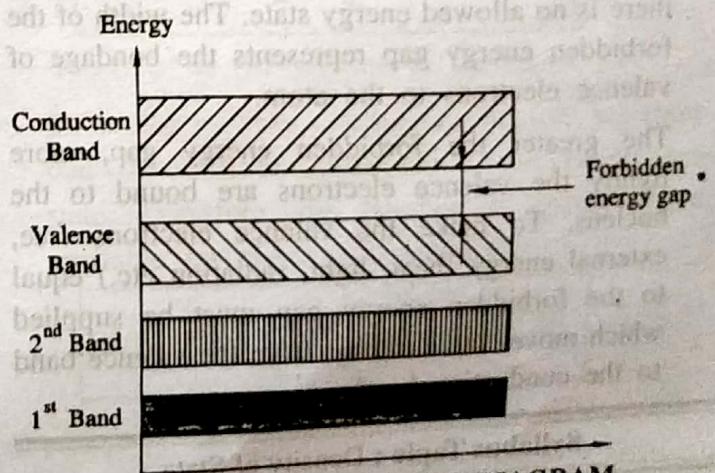

FIG. 1.15 : ENERGY BAND DIAGRAM
- The graphical representation of the energy band diagram is shown in Fig. 1.15.
- It is shown in Fig. 1.15.
- The energy band occupied by the conduction (or free) electrons is called conduction band, which is shown in Fig. 1.15.
- The energy gap between the valence band and conduction band is known as forbidden energy gap. It is shown in Fig. 1.15.